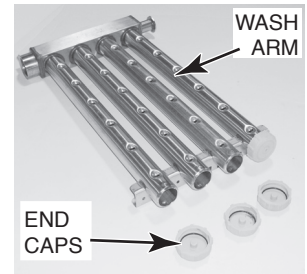

Fig. 22
5. Remove wash arms. Remove wash arm end caps (Fig. 22) and push any nozzle obstructions into the wash arms. Thoroughly flush the wash arms in a sink. Replace the wash arm end caps.